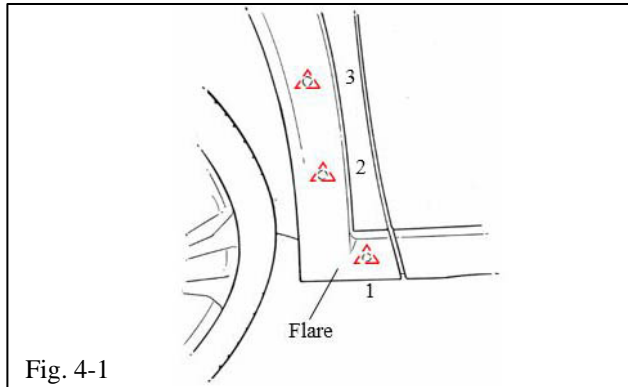
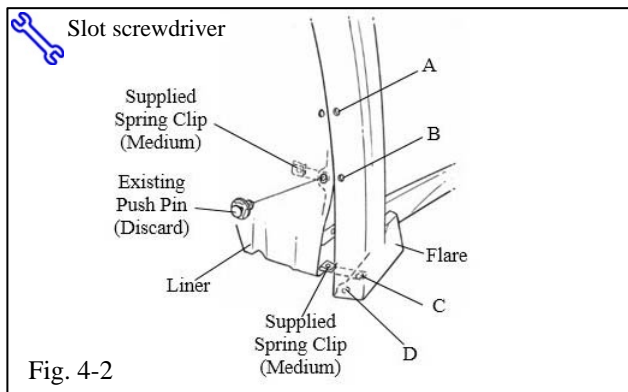

Fig. 4-1
Fig. 4-2
-  (b) Partially remove existing lower body flare at mudguard location for access to liner push pin at location “B” (Fig. 4-1 and Fig. 4-2).
- (c) Remove liner push pin at location “B” and discard (Fig. 4-2).
- (d) Pull liner out and install supplied spring clip (medium) over body panel hole at location “B” with turned up edge on inside of panel (Fig. 4-2).
- (e) Install supplied spring clip (medium) over drilled flare hole at location “C” with turned up edge on inside of flare (Fig 4-2).
- (h) Install supplied spring clip (small) over drilled flare hole at location “A” with turned up edge on inside of flare (Fig. 4-2).